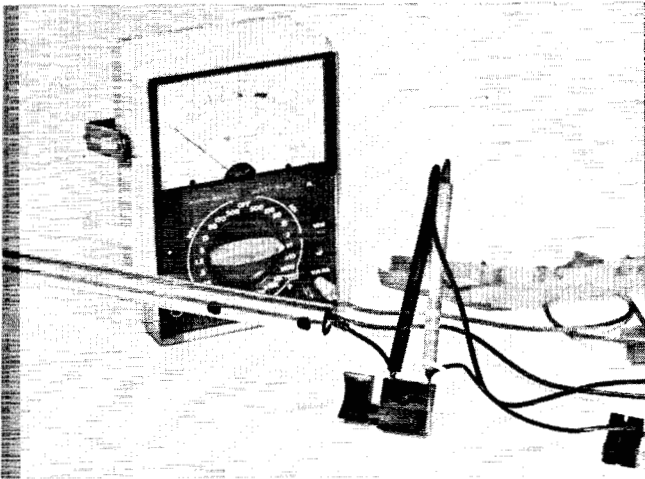

Figure 2.8a
2.8 TEST SWITCH (figs. 2.8a, 2.8b)